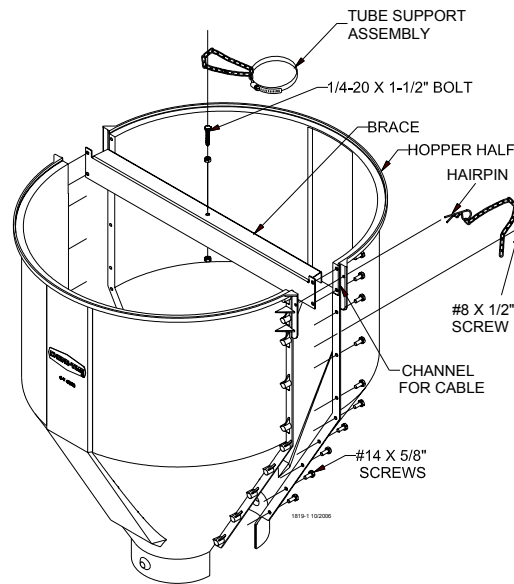

Figure 21.
1. Assemble the 1/4-20 x 1-1/2" bolt to the brace with two 1/4-20 nuts. One nut should be assembled under the brace with the other on top. This bolt is to provide a place for the tube support assembly chain to be hooked, see figure 21.
2. Assemble the 150 lb. hopper halves and brace as shown in Figure 21, using #14 x 5/8" screws (supplied in hardware package).
3. Assemble the #8 x 1/2" screws and chain as shown in Figure 21.